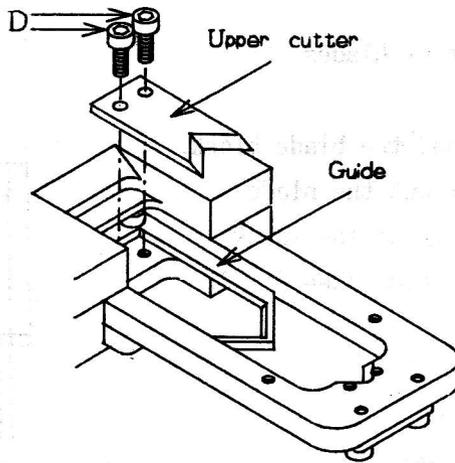

Fig. 5
- Remove screw C, and pull out the upper blade in the direction of the blade. (See Fig.5).
- To mount the blade, first insert the upper blade into the upper blade holder in reverse direction to the arrow as shown in Fig.5, and fix it with screw C.